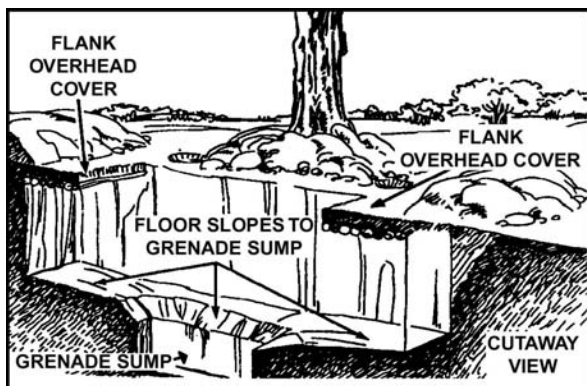

Figure 071-326-5703-7. Flank overhead cover
6. Construct flank overhead cover when frontal overhead cover significantly increases the silhouette of the position, making it vulnerable to detection (figure 071-326-5703-7).